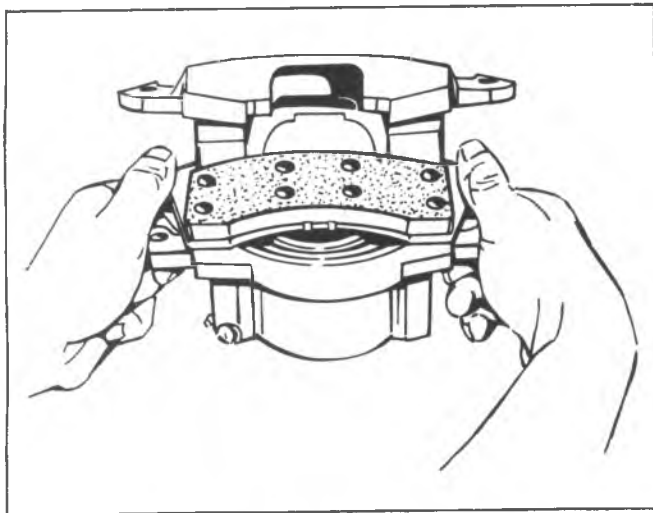

Fig.5-27-Installing Inboard Shoe
4. Position the inboard shoe and lining assembly (with spring attached) in the caliper so that the ear end of the shoe and lining is down and the bottom end up at an angle with the spring resting on the piston I.D. (fig. 5-27). Press down on both ends of the shoe until the shoe is in a flat position, resting on the piston. The spring end of the inboard shoe support spring should be resting on the I.D. of the piston.